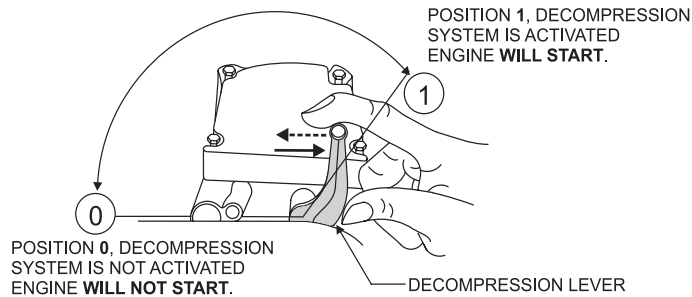

Figure 17. Decompression Lever
2. Pull up decompression lever (Figure 17) to position 1 and release.